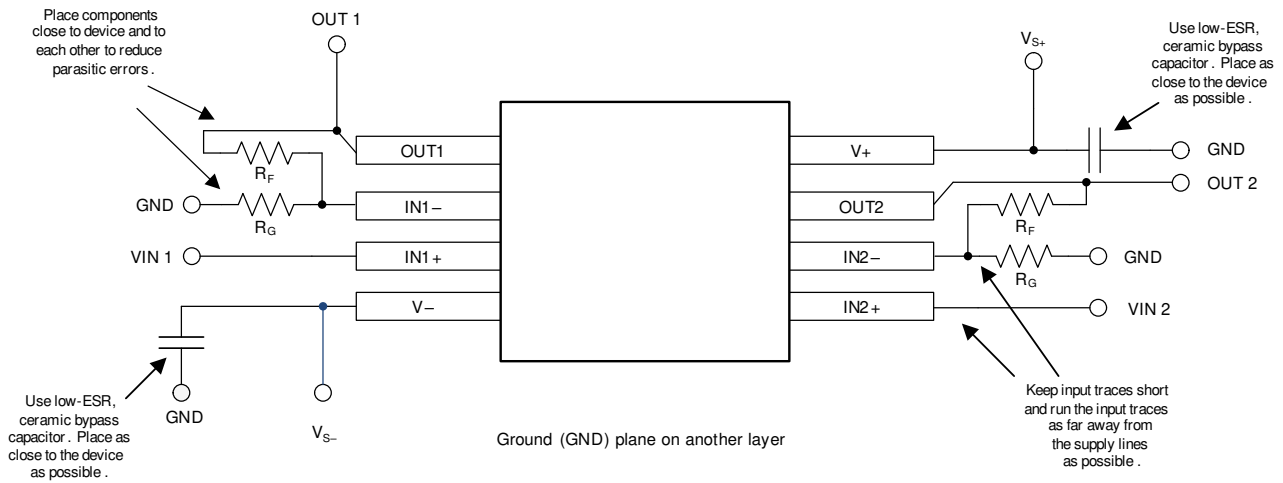

Figure 8-4. Layout Example
- Place the external components as close to the device as possible. As illustrated in 図 8-4, keeping RF and RG close to the inverting input minimizes parasitic capacitance on the inverting input.